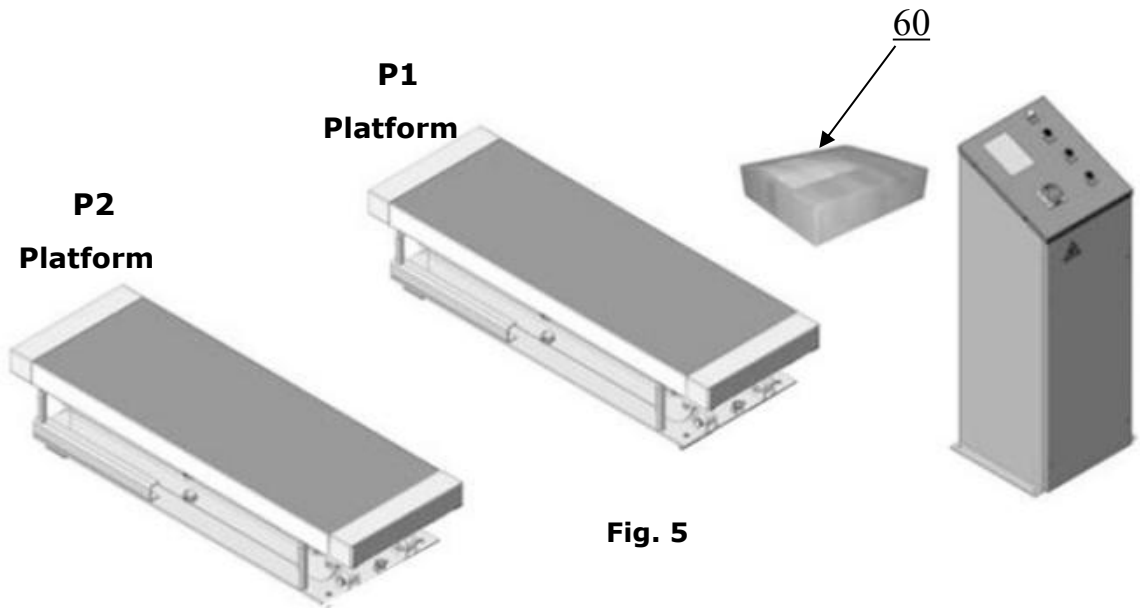

Fig. 5
2. Move the parts aside, open the outer packing and check the parts according to the shipment parts list (See Fig. 5).